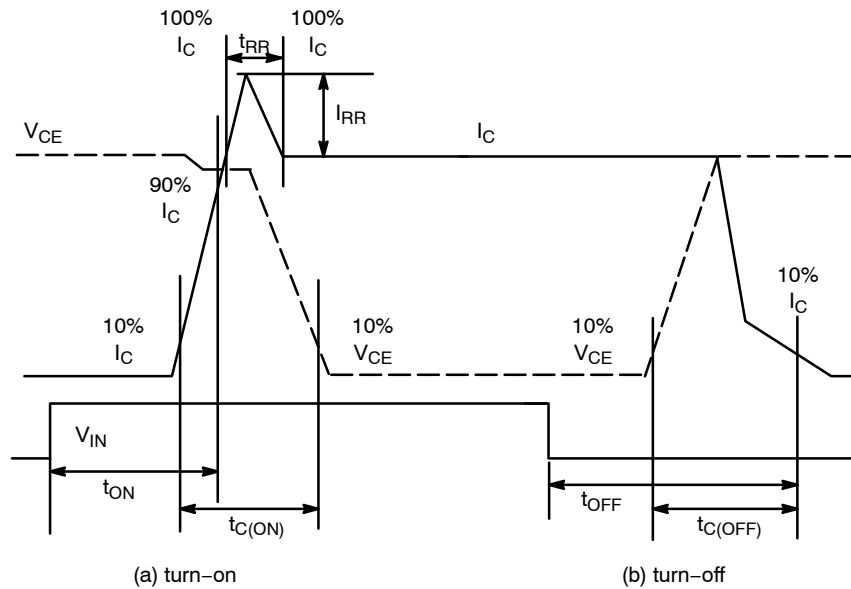

Figure 3. Switching Time Definition
2. t_{ON} and t_{OFF} include the propagation delay of the internal drive IC. t_{C(ON)} and t_{C(OFF)} are the switching time of IGBT itself under the given gate driving condition internally. For the detailed information, please see Figure 3.